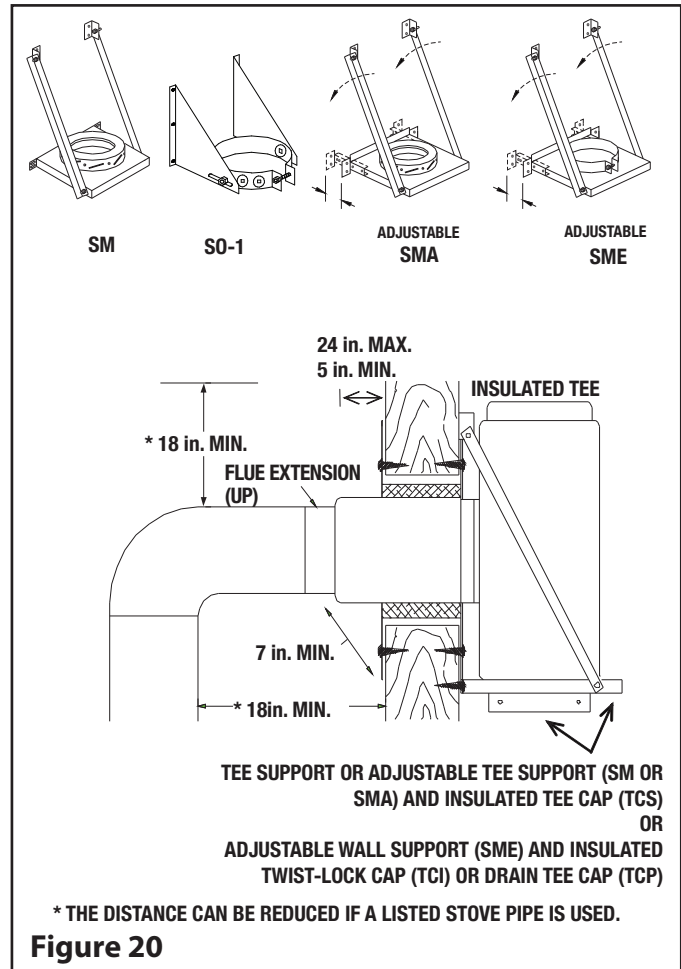

Figure 20
Four supports are available, an adjustable with collar (SME), an adjustable with coupling (SMA), (SO-1) and a non-adjustable with coupling (SM). See Figure 20